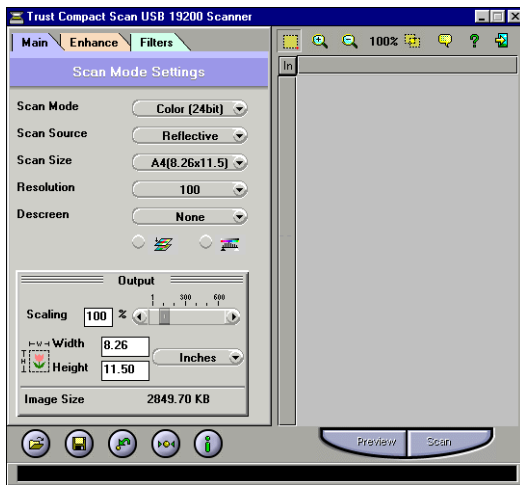

Figure 20: TWAIN dialog box
5. Return to the 'File' menu. Click on 'Acquire'. This is usually next to the 'Select' command. The TWAIN dialog box will appear (Figure 20).